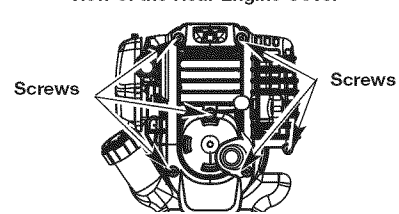

Fig. 30
1. Remove the six (6) screws on the back of the engine cover with a Flat-head or T-25 Torx screwdriver (Fig. 30).
4. Remove the engine cover (Fig. 30).
- Stop the engine and allow it to cool. Remove the six (6) screws on the back of the engine cover with a Flat-head or T-25 Torx screwdriver (Fig. 30).